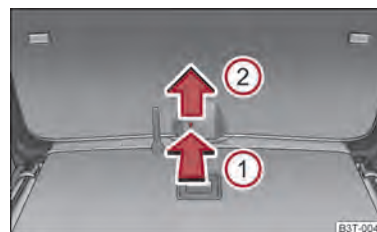

Fig. 24 Emergency unlocking of the boot lid
- Insert a screwdriver or similar tool into the opening in the trim in the direction of arrow ① ⇒ fig. 24 to the stop.
- Unlock the lid in direction of arrow ② upwards.